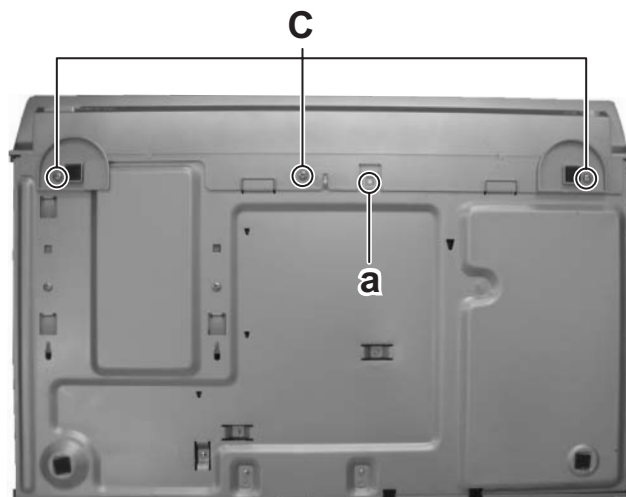

Fig.3
3.1.2 Removing the front panel assembly (See fig.3 to 5)
- (1) Remove the three screws **C** attaching the front panel assembly from bottom side. (See Fig.3)